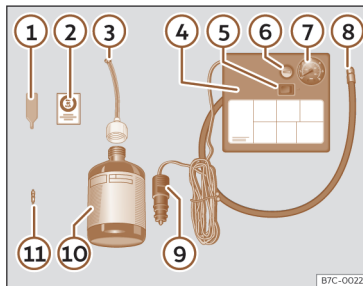

Fig. 199 Standard display: contents of the tyre mobility system.
The tyre mobility system is located underneath the floor covering in the luggage compartment. Includes the following components >>> **Fig. 199:**
• Unscrew the tyre valve cap and insert. Use the device >>> **Fig. 199 ①** to remove the valve cap. Place it on a clean surface.
- Shake the tyre sealant bottle vigorously >>> **Fig. 199 ⑩**.
- Screw the tyre inflation hose >>> **Fig. 199 ③** into the tyre sealant bottle. The bottle's seal will break automatically.
- Remove the filler cap >>> **Fig. 199 ③** and screw the open end of the tube into the tyre valve.
- Replace the valve insert with the device >>> **Fig. 199 ①** onto the tyre valve.
- Screw the tyre inflation tube of the compressor >>> **Fig. 199 ⑧** onto the tyre valve.
- Check that the air evacuation screw is closed >>> **Fig. 199 ⑥**.
- Attach the connector >>> **Fig. 199 ⑨** to the vehicle's 12 volt power outlet >>> page 228.
- Switch on the air compressor with the ON/OFF switch >>> **Fig. 199 ⑤**.
- Attach the sticker >>> **Fig. 199 ②** to the instrument cluster display, within the driver's field of vision.
Screw in the inflator tube >>> Fig. 199  again and check the pressure on the gauge .